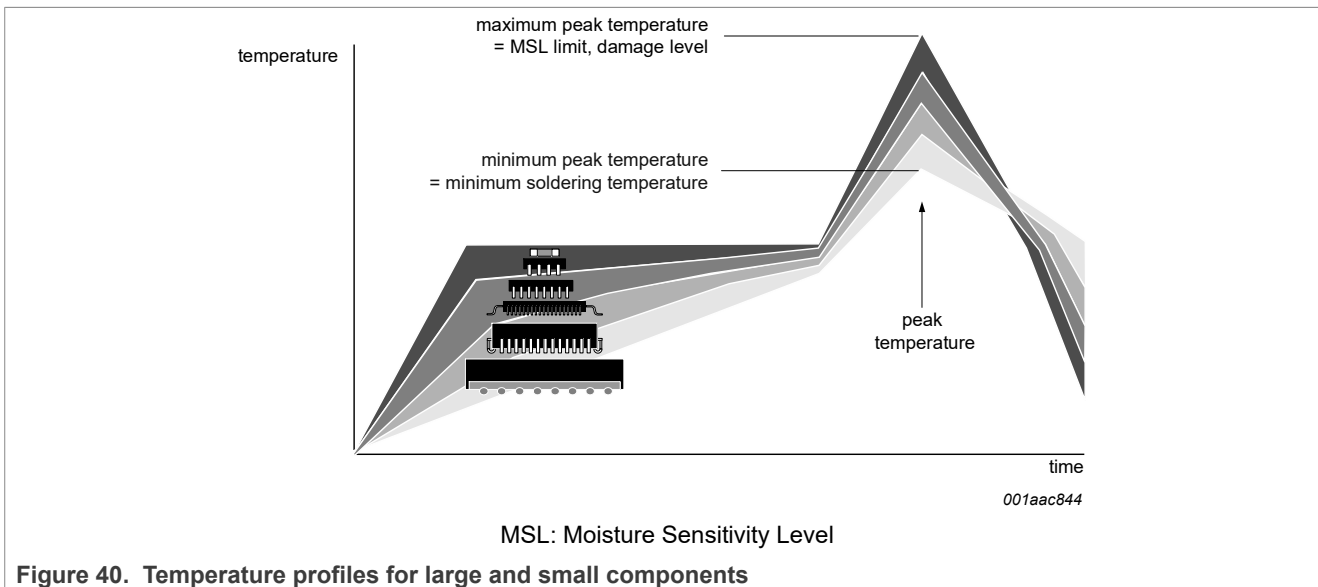

Figure 40. Temperature profiles for large and small components
- Lead-free versus SnPb soldering; note that a lead-free reflow process usually leads to higher minimum peak temperatures (see Figure 40) than a SnPb process, thus reducing the process window
Studies have shown that small packages reach higher temperatures during reflow soldering, see Figure 40.